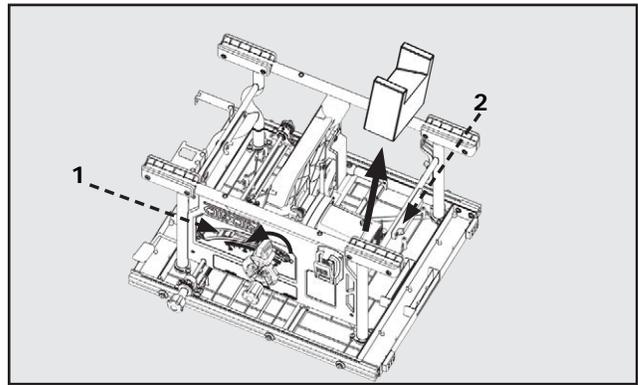

Figure 10
9. Unlock the Bevel Lock and rotate the Motor Assembly enough to remove the Shipping Foam protecting the Saw Motor as shown in Figure 10.